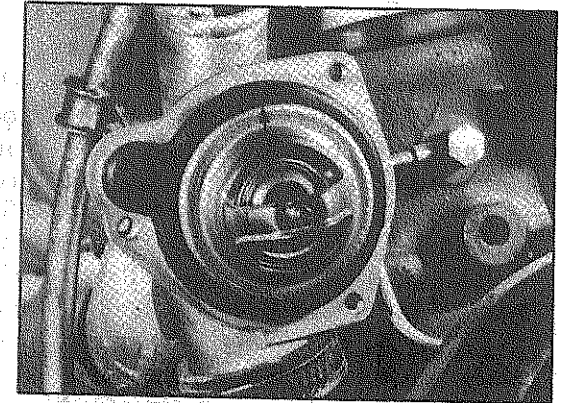

Fig. 20
5) Remove the thermostat (3) from its housing and verify it as follows (Fig. 20):